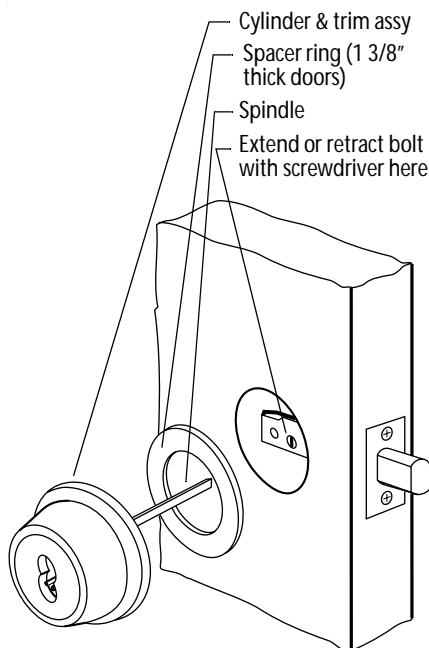

Figure 5 Installing the cylinder and trim assembly
- Slip the spacer ring behind the outside cylinder and trim assembly as shown in Figure 5.
- Install the cylinder and trim assembly with the spindle in the **vertical** position as shown in Figure 5.